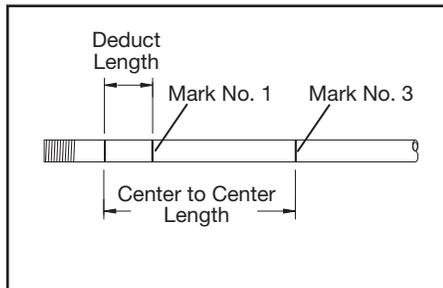

Figure 19b
1. Measure distance from end of conduit to start of bend and mark conduit. (Mark 1) See Figure 19b.